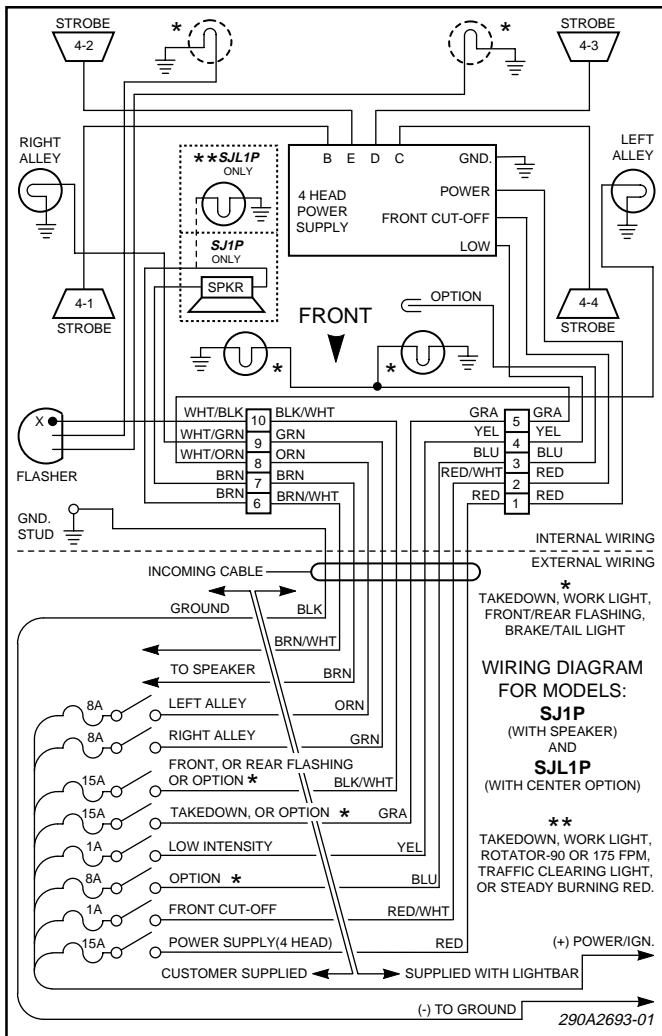

Figure 1. SJ1P and SJL1P Wiring Diagram.
2. For proper light operation, the control cable must be properly terminated inside the user-supplied control head. Using the appropriate wiring diagram (figures 1 through 4) as a guide, make the appropriate electrical connections shown in Table 1. Ensure that the lines are adequately fused as shown in the appropriate figure.